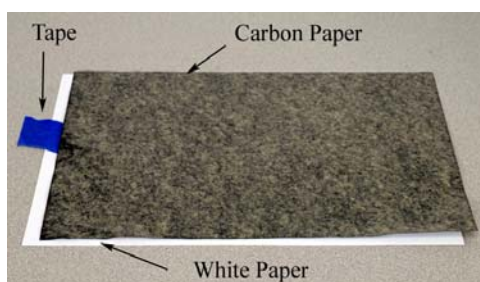

Figure 8: Landing Area
4. Launch the ball and note the landing location. Place a blank sheet of paper at this location and tape it in position as shown in Figure 8. Cover with a sheet of carbon paper. You do NOT need to tape the carbon paper.